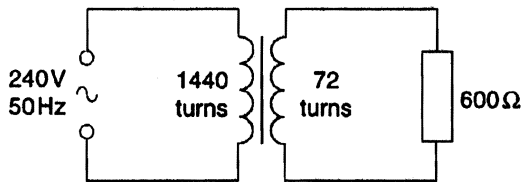

Fig. 11.1
- 68 (b) Figure 11.1 shows an ideal step-down transformer. There are 1440 turns on the primary coil and 72 turns on the secondary coil. The primary coil is connected to the 240 V, 50 Hz mains supply. A resistor of resistance 600Ω is connected across the secondary coil.